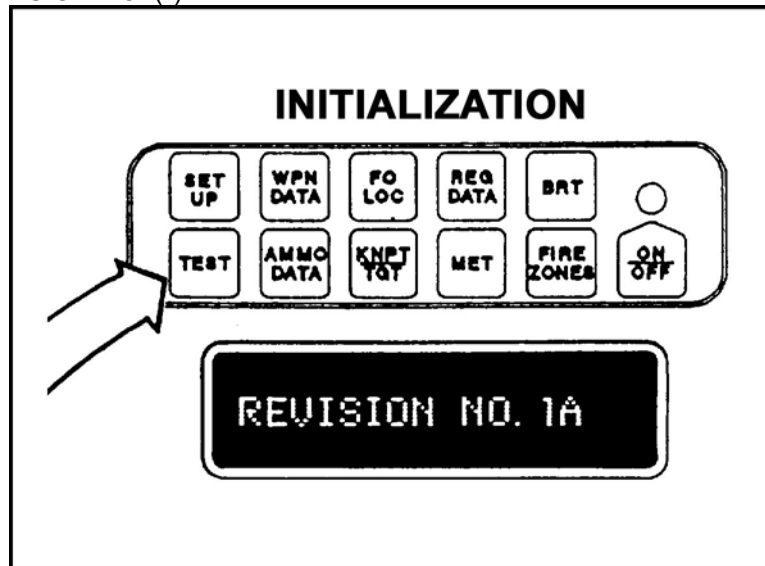

Figure 3. TEST switch.
- c. If the battery is functioning, begin the test by pressing the TEST switch (Figure 3). The display reads REVISION NO. (*).